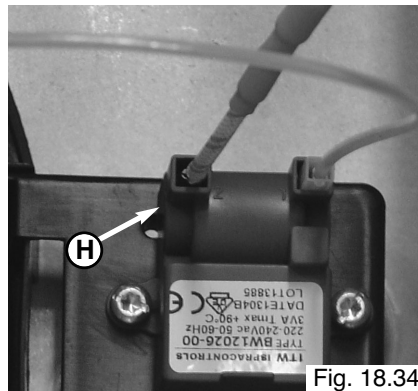

Fig. 18.34
3. Remove the electrode cable "H" from the ignitor (Fig. 18.34);